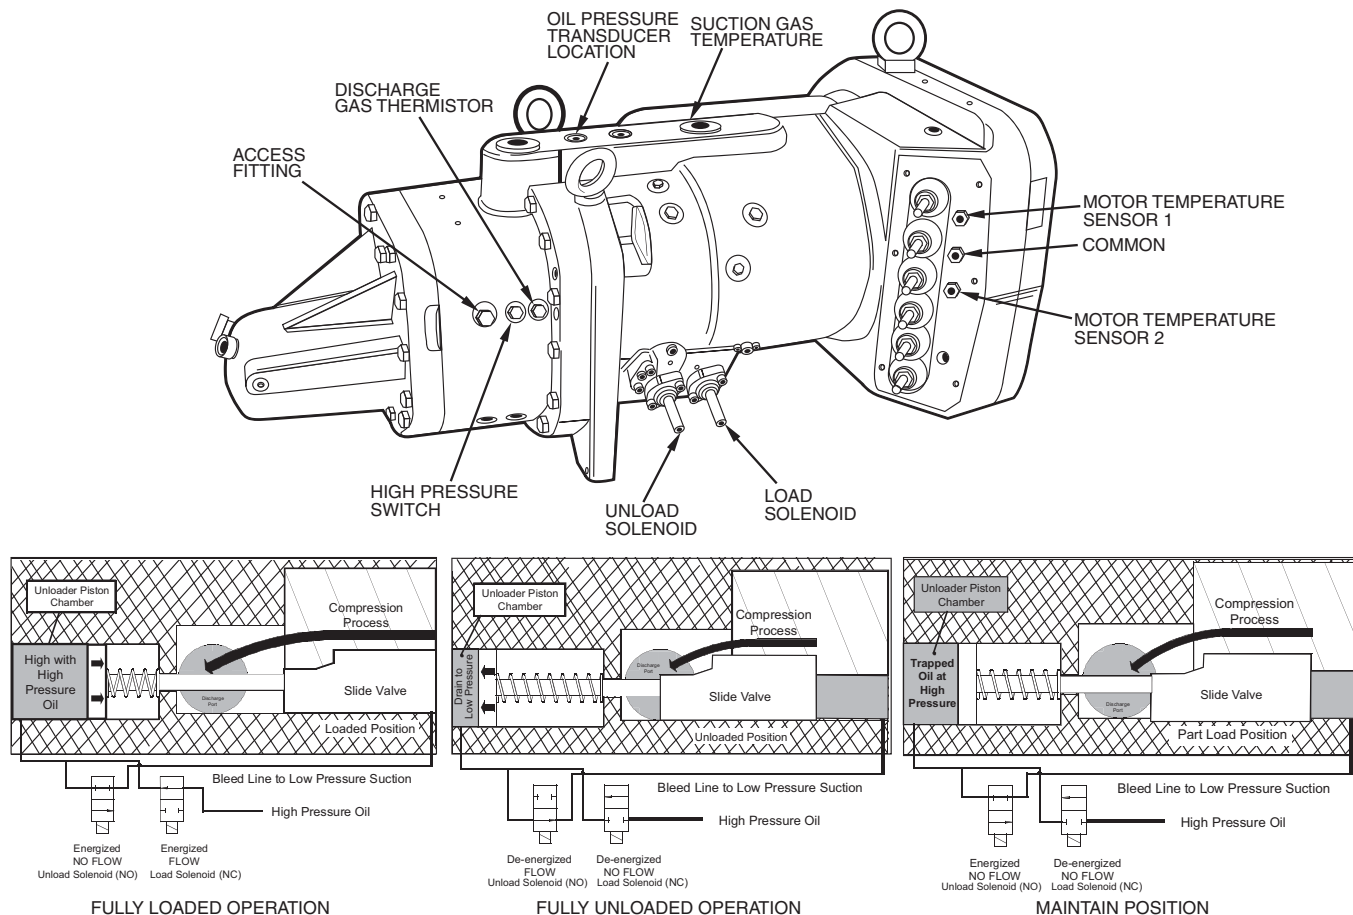

Fig. 51 — Typical 06T Compressor (All Units)
**Compressor Assembly** — The 30XA units with Greenspeed® intelligence utilize VFD-controlled screw compressors with modulating slide valves to increase capacity until approximately 50% of total compressor capacity for each circuit is reached. See Fig. 51 for a view of a typical 06T compressor. The slide valve position is varied by opening and closing the 2 solenoid valves located on the compressor. To unload the compressor, both solenoids are deenergized. To increase capacity both solenoid valves are energized together which will cause the slide valve to slide towards the fully loaded position. To stop the loading process solenoid 2 is energized and solenoid 1 is deenergized. This will cause the slide valve to maintain its current position. There is no feedback for the position of the slide valve. The control utilizes compressor current as an indicator of the slide valve position. Once the calculated position of the slide valve reaches 100% at the lowest operating frequency (27.5 Hz), the control will keep both the solenoids energized and the slide valves will be considered fully loaded, and the circuit loading will be 50%. Further circuit capacity increase to 100% will be achieved by increasing the VFD frequency output from 27.5 Hz to 60 Hz.